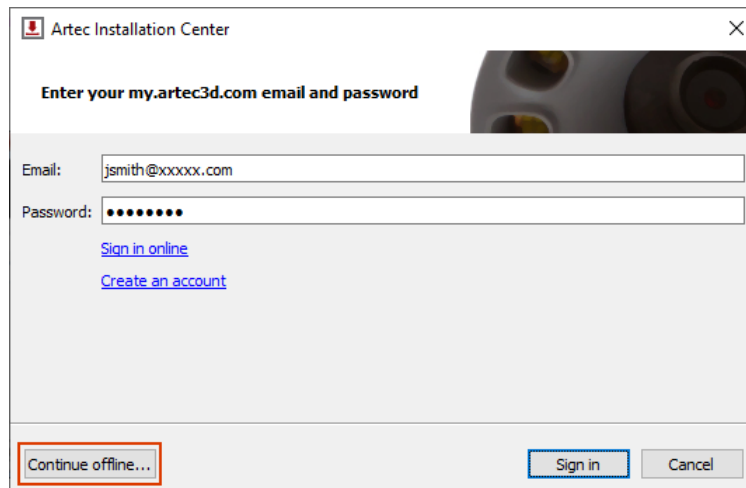

Figure 20: Artec Installation Center authentication dialog
2. During installation the login/password dialog will be displayed as **Figure 20** shows. Click *Continue offline*.